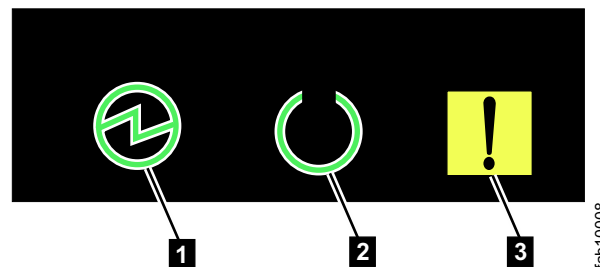

Figure 74. Power LEDs on a node canister
3. Wait for the power LEDs on all node canisters in all control enclosures to blink at 1 Hz, indicating that the shutdown operation completed, as shown in Figure 74.